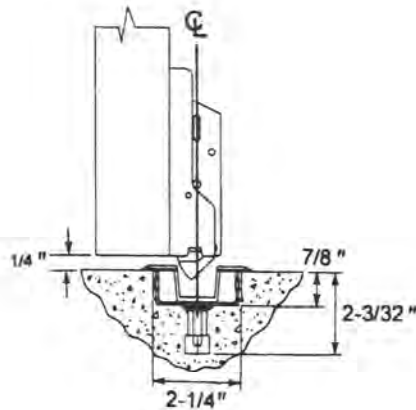

Figure 6
4. Install bottom strike into finished floor or threshold, and be sure to align center line of bottom latch with center line of bottom strike. (See Figure 6.)